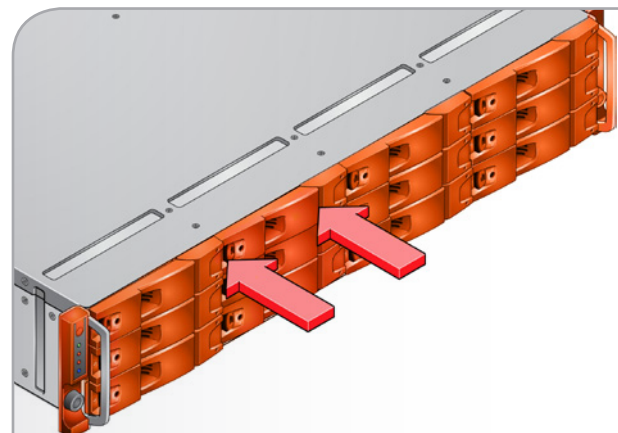

Fig. 100 - Securing the Drive Carrier Module
4. Secure the drive carrier by closing the handle until it fully engages. A click should be heard as the latch engages and holds the handle closed (Fig. 100).